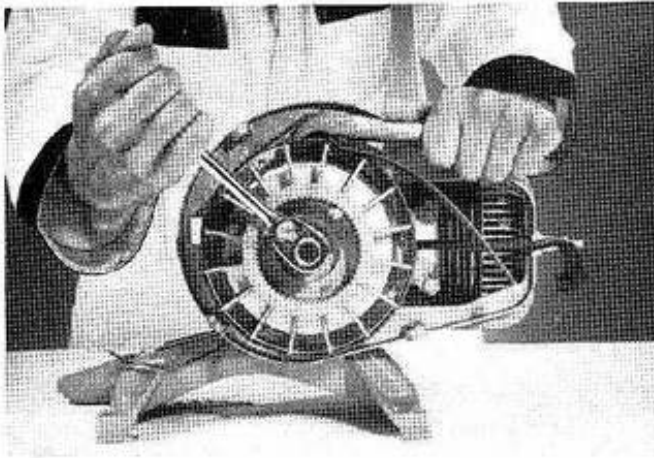

Figure 64. Using the Strap Wrench.
- a. Secure the flywheel with the strap wrench. (See Figure 64.)